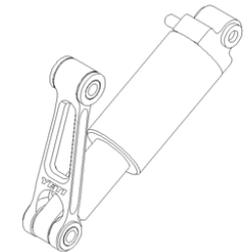

Figure 3b: Dogbone (2) and Shock (3) Assembly with Fox Pin (10) and Black Nylon Washers (11), assembled
8 SHOCK ATTACHMENT Press the Fox pin (10) the rest of the way through the shock (3) and into the other side of the dogbone (2) boss. Press the pin (10) in until it is centered in the assembly. This will leave about 1/6th" exposed on each side of the dogbone (2) as seen in Figure 3b. Place a black nylon washer (11) on each end of the exposed Fox pin (10). These washers (10) will have to be held in place by hand in one of the following procedures.